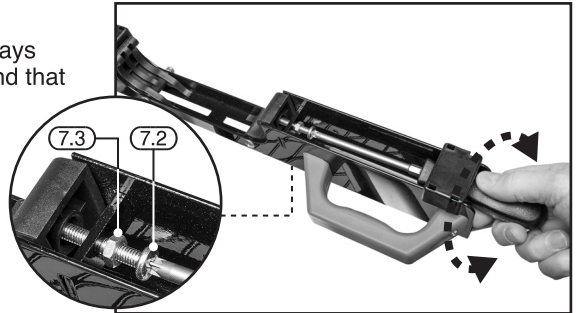

FIG.9
8.3 MOUNTING A MITRE SAW – FIGS.9 – 16
- Before fitting the mounting brackets (7) to a mitre saw, firstly determine how easily the mounting brackets can be seated on the mitre saw frame.
- Depending on the adjustment required, turn the screw clockwise to tighten the clamping tension, or anti-clockwise, which will loosen the clamping tension (Fig.9).